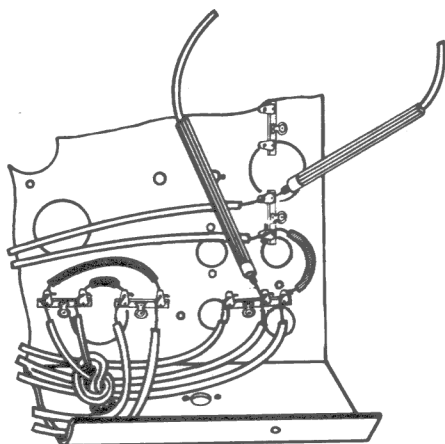

Fig. 14-16
Step 2. At the resistor terminal strip, unsolder the lead that connects it with high-voltage secondary and solder it, instead, to one lug of the 6-volt terminal strip, as shown in Fig. 14-16.
Step 4. At the high-voltage terminal strip, unsolder the lead that connects it with the line-cord terminal strip and solder it, instead, to one lug of the transformer primary terminal strip. (When these changes have been made, check your connections with Fig. 14-16.
Step 6. With your multimeter set up for operation on the 300 VAC range, measure the voltage between the free end of the 6-volt winding and the red-yellow lug of the high-voltage secondary, as shown in Fig. 14-16. Record the voltage here: